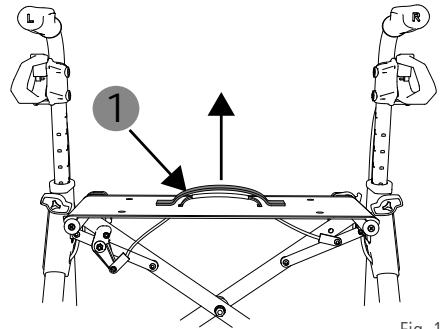

Fig. 10
1. Lift the rollator using the carrying strap (upper, wide carrying strap / 1, Fig. 10) on the seat cover.